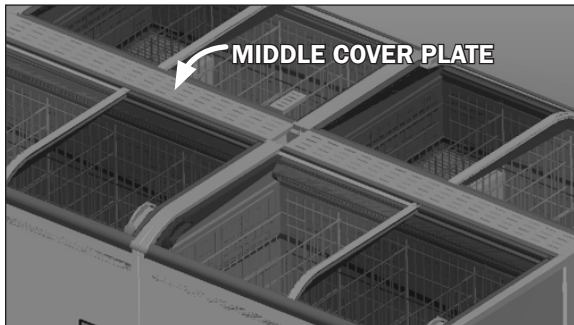

Fig. 12 Middle cover plate
9. Repeat steps for case splicing as needed and put the middle cover plate down in the middle when ready (Fig. 12).